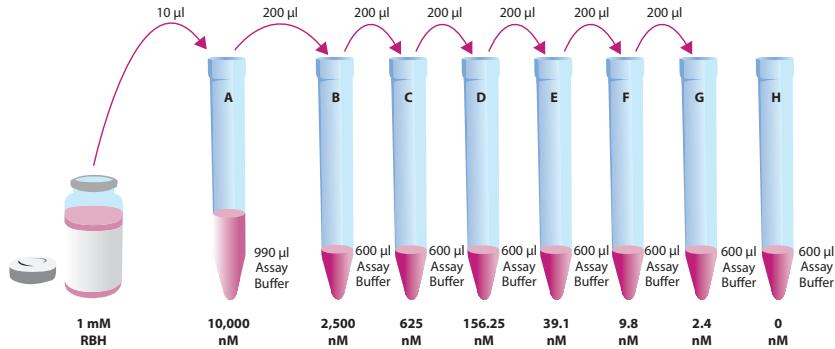

Figure 3. Preparation of RBH standards
14. Prepare the RBH standards according to Figure 3: Label eight microcentrifuge tubes A-H. Aliquot 990 μ l of Protein Carbonyl Assay Buffer into tube A and 600 μ l into tubes B-H. Transfer 10 μ l of the 1 mM Protein Carbonyl RBH to tube A and mix thoroughly. Serially dilute the standard by removing 200 μ l from tube A and placing it in tube B; mix thoroughly. Next, remove 200 μ l from tube B and place it in to tube C; mix thoroughly. Repeat this process for tubes D-G. Tube H contains Protein Carbonyl Assay Buffer only.